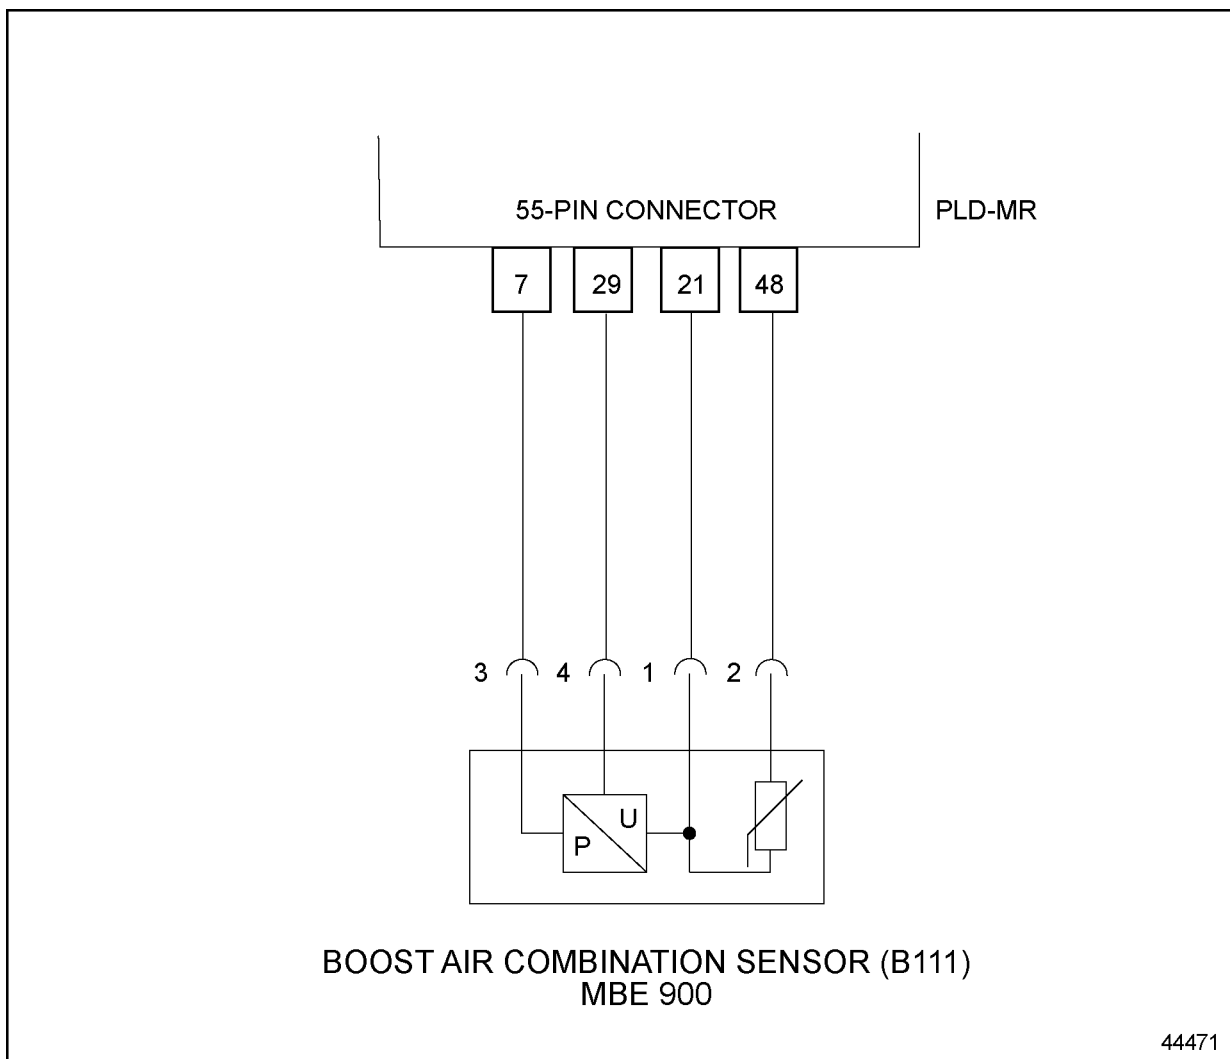
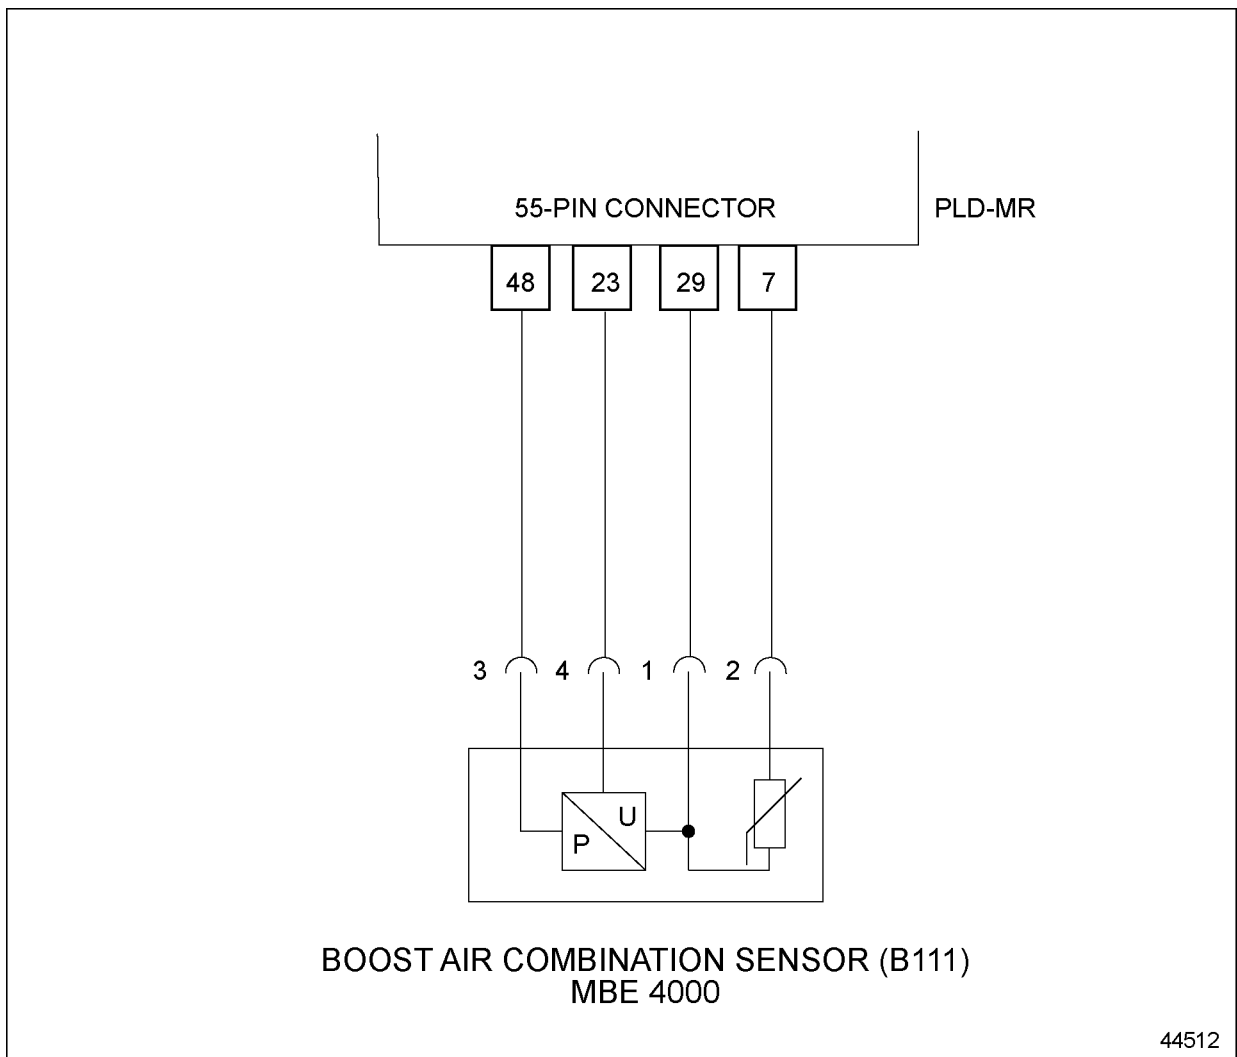

Figure 10-2 Turbo Boost Air Combination Sensor Wiring for MBE 900 Engine
Figure 10-3 Turbo Boost Air Combination Sensor Wiring for MBE 4000 Engine
- [a] If fault code 102 03 is active in addition to 105 03, repair open circuit in 55-pin connector wire 21 (on MBE 900 — see Figure 10-2) or wire 29 (on MBE 4000 — see Figure 10-3) to pin 1 of the sensor. Erase fault code memory.
- [a] If more than 10 V, repair short to vehicle system power in 55-pin connector wire 48 (on the MBE 900 — see Figure 10-2) or wire 7 (on the MBE 4000 — see Figure 10-3) to pin 2 of the sensor. Erase fault code memory.
- [a] If new fault code 105 04 is not active, repair open circuit in 55-pin connector wire 48 (on the MBE 900 — see Figure 10-2) or wire 7 (on the MBE 4000 — see Figure 10-3) to pin 2 of the sensor. Erase fault code memory.
- [b] If new fault 102 04 is active, repair short to power in 55-pin connector wire 48 (on the MBE 900 — see Figure 10-2) or wire 7 (on the MBE 4000 — see Figure 10-3) to pin 2 of the sensor. Erase fault code memory.
- [a] If resistance is less than 30 k Ω , repair short to ground in 55-pin connector wire 48 (on the MBE 900 — see Figure 10-2) or wire 7 (on the MBE 4000 — see Figure 10-3) to pin 2 of the sensor. Erase fault code memory.